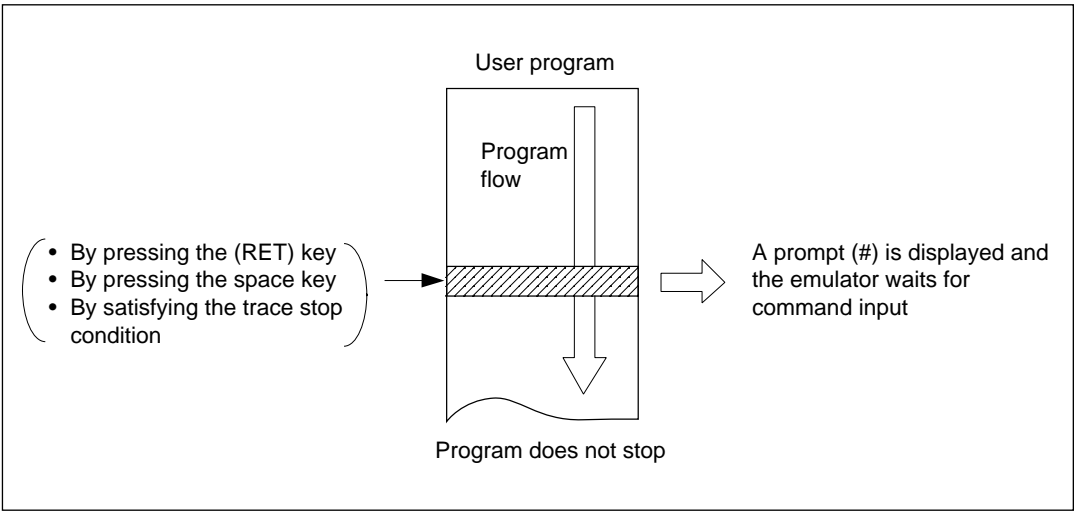

Figure 1-4 Parallel Mode
If any of the above occurs, the emulator will display a prompt (#) and enter parallel mode command input wait state. Emulation, however, continues without interruption (figure 1-4). Input the END (E) command to return to the normal mode. Input the ABORT (AB) command to stop user program execution in the parallel mode.